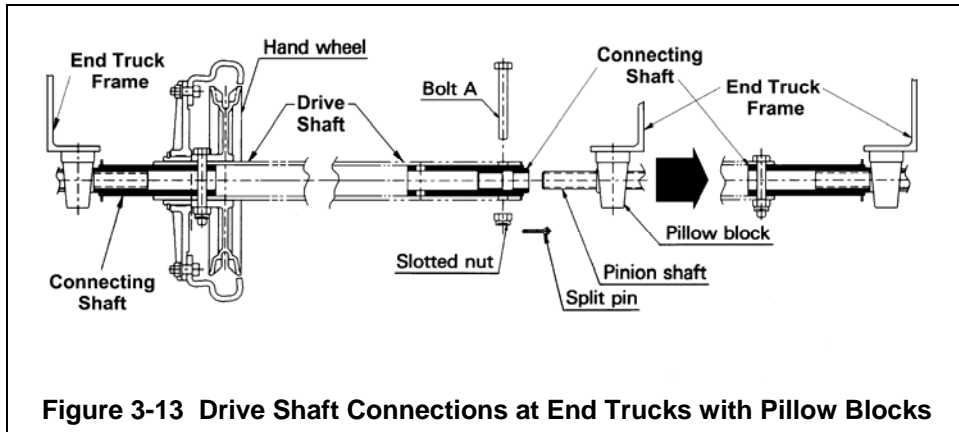

Figure 3-13 Drive Shaft Connections at End Trucks with Pillow Blocks
- (1) Slide the Hand Wheel over the Hand Wheel End of the Drive Shaft (the Hand Wheel end of the Drive Shaft is the end with a through-bolt hole two inches from the shaft end).
- (2) Refer to Figure 3-13 or Figure 3-14 whichever applies and insert the connecting shafts into both ends of the Drive Shaft. Line up the three holes at the Hand Wheel end - hole in the hub of the Hand Wheel, hole in the Drive Shaft and the hole in the Connecting Shaft. Insert the long Bolt B and fasten using the nut and split pin.
- (3) Next, hold the Hand Wheel end of the Drive Shaft adjacent to the splined Pinion Shaft/Axle. Slide the Connecting Shaft onto the Pinion Shaft/Axle. Refer to Figure 3-13 or Figure 3-14 whichever applies.
- (4) Last, line up the remaining end of the Drive Shaft with the splined Pinion Shaft/Axle on the other end truck and slide out the Connecting Shaft from the end of the Drive Shaft until the through-bolt holes line up between the Connecting Shaft and Drive Shaft. Fasten the Drive Shaft to the Connecting Shaft using Bolt A, the slotted nut and split pin.
- (2) Refer to Figure 3-13 or Figure 3-14 whichever applies and insert the Connecting Shaft into the Hand Wheel end of the Drive Shaft. Line up the three holes - hole in the hub of the Hand Wheel, hole in the Drive Shaft and the hole in the Connecting Shaft. Insert the long Bolt B and fasten using the nut and split pin.
- (1) Refer to Figure 3-13 or Figure 3-14 whichever applies and insert the Connecting Shaft into the end truck side of the Drive Shaft (the end truck "end" has the through-bolt hole two inches from the end of the Drive Shaft). Leave the Connecting Shaft fully inserted. Do not line up the through-bolt holes and do not fasten yet.
- (2) Slide the end truck side of the Drive Shaft (with connecting shaft fully inserted) onto the splined Pinion Shaft/Axle of the end truck. Refer to Figure 3-13 or Figure 3-14 whichever applies. Do not attempt to line up holes or fasten hardware.